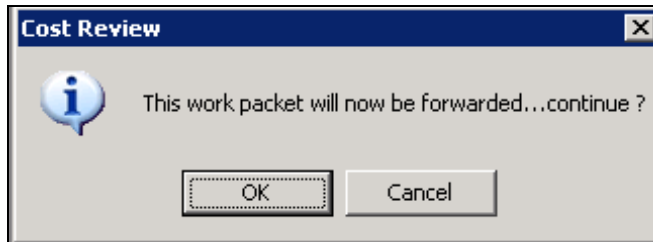

Figure 7-74: Forward Work Packet Dialog Box
17. Click the **Cost Review** tab. On the bottom left part of the tab, click the **COMPLETE WORK STEP** button. The Forward Work Packet dialog box is displayed (Figure 7-74).